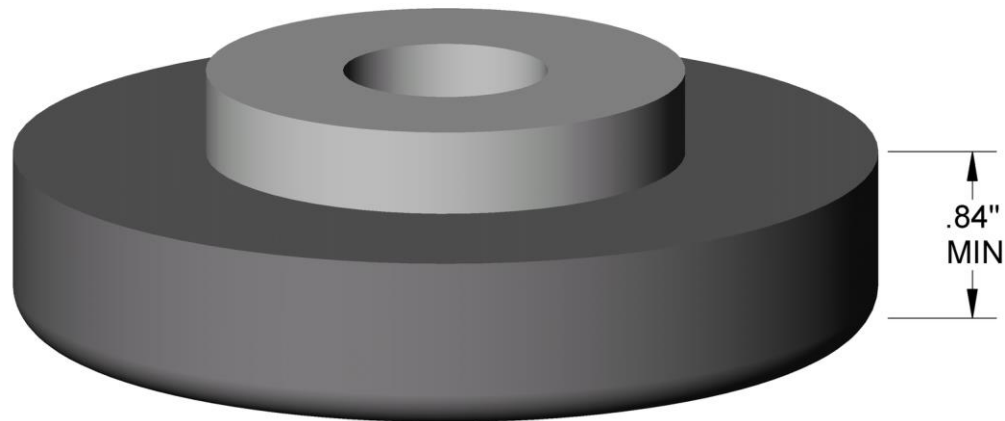

Figure 1
2. Measure the height of the Center Bonded Mounting just prior to re-installation. The height must be .84" or greater to be acceptable for re-use (see figure 1). Allow 24 hours for relaxation.